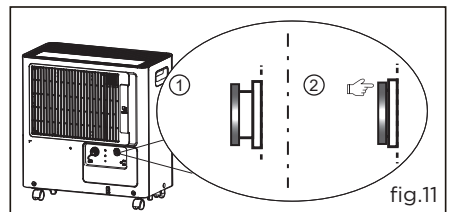

fig.11
- a. Press the tightening ring of drainage joint;(fig.11)